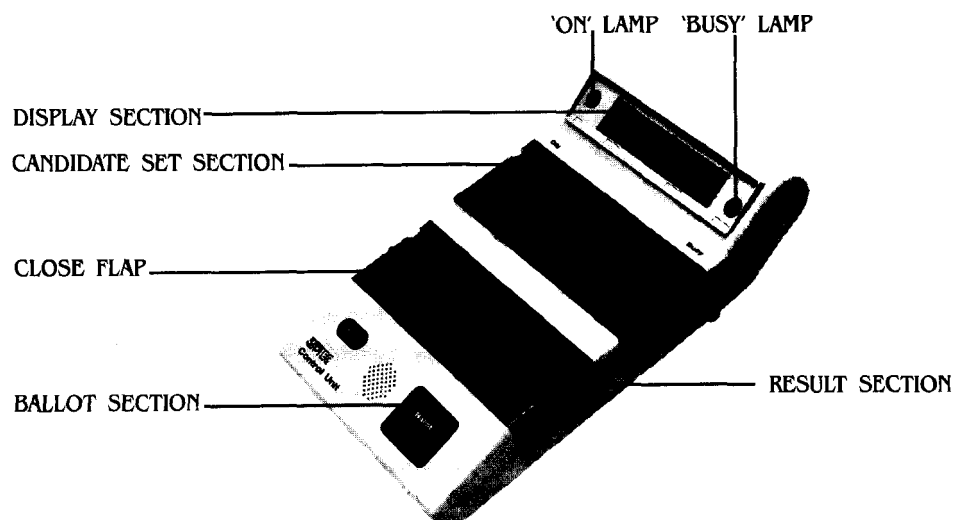

Fig.6 Front view of Control Unit
18. Top portion of the Control Unit consists of 4 sections (as shown in Figs. 6 and 7)